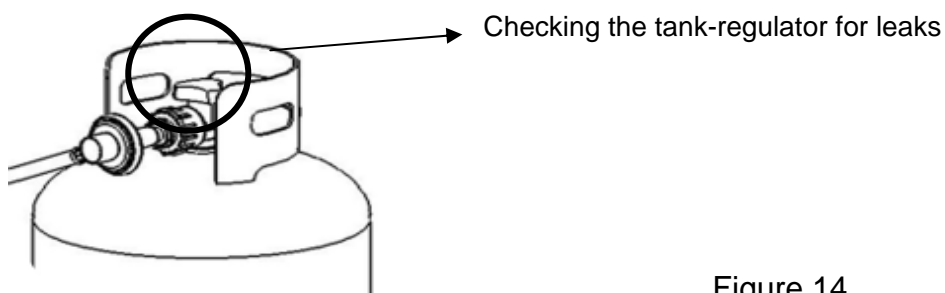

Figure 14
15. Open the tank valve. Apply a solution of soapy water to the tank-regulator connection and to the valve-hose connection to check for leaks as shown in Figure 14. If soap bubbles continue to form, the connection has a leak. If a leak is found, close the tank valve and tighten all connections.